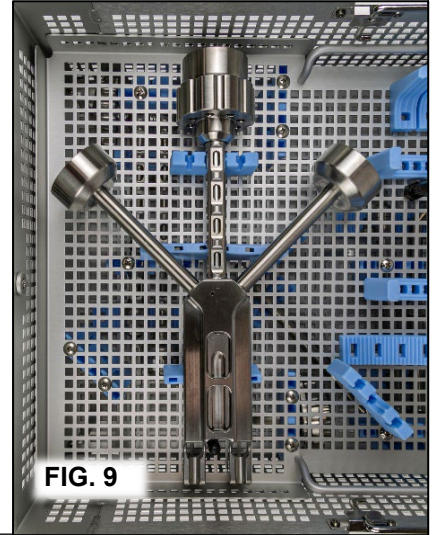

FIG. 9
2. If using a sterilization pouch, place each instrument in its own individual pouch. If using a sterilization tray, read the sterilization tray instructions for use before proceeding. Ensure that the sterilization tray has been cleaned according to the sterilization tray instructions for use and load the tray bottom according to FIG. 9. Place detached DOC cover(s) in general instrument cleaning area.